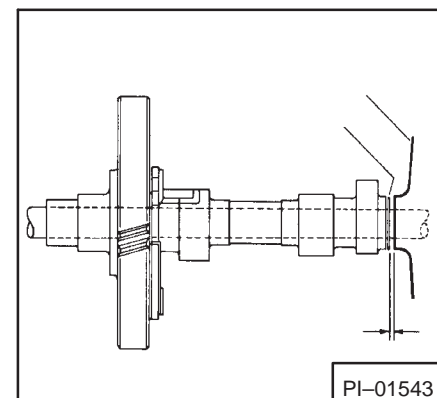

Fig. 50 Checking End Play
- d. Lubricate rod then insert into block (bearing plate side). Before pushing rod through camshaft, slip one .005" washer (end play) between end of camshaft (opposite gear end) and block. Push rod through camshaft and tap lightly until rod just starts into bore at P.T.O. end of block. Check end play with feeler gauge (Fig. 50) if within tolerance press rod into final position or remove rod and add (or subtract) .005 and .010" thick washers as necessary to attain proper end play (See Fits and Clearance Section).